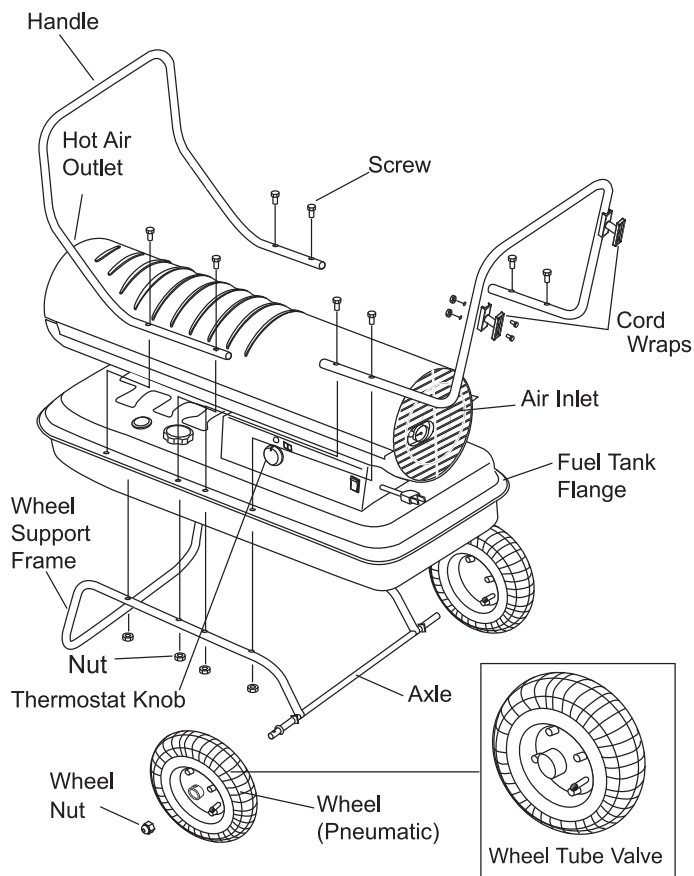

Figure 7. Assembly of Models HH-125T/175T/215T-KFA
1. Slide axle through holes in wheel support frame. Slide wheel bushings and flat washer (A) on to each end of axle.
2. Slide wheels on to each axle, being sure that the valve stem (if pneumatic) is to the outside (**see Figure 7**).
5. Take the front handle and align the mounting holes with the corresponding holes in the tank flange/wheel frame. Slide a screw (A) through the holes and loosely attach a nut. Repeat for the other 3 holes, then fully tighten all 4 screws and nuts.
1. Align holes in cordwrap with corresponding holes in rear handle. Insert screws (B) through holes, attach nuts and tighten (**see Figure 7**).